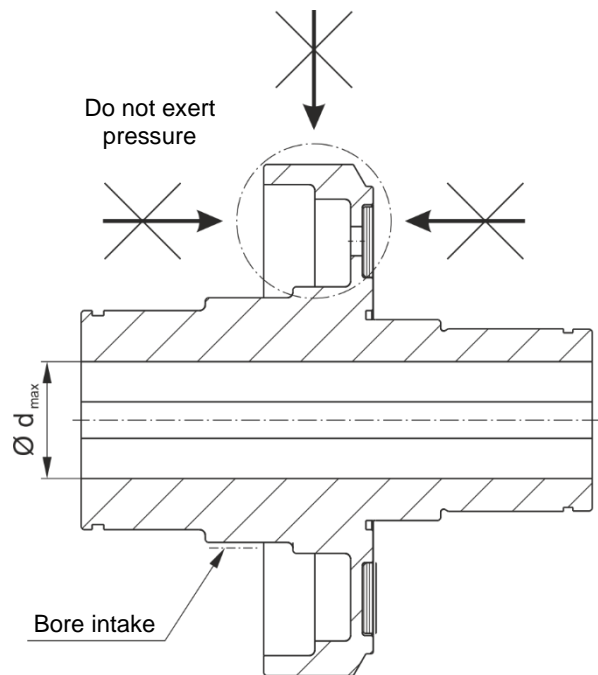

Fig. 3
## Boring the Rotor Hub (Fig. 3)
The rotor (1) must not be bent during boring. Do not place pressure on the outer, thin-walled rotor (1) area, see Fig. 3. To bore, clamp the rotor (1) onto the hub, Fig. 3. The max. permitted bore diameter  $d_{max}$ , according to Table 1, must not be exceeded. We recommend H7/k6 as a suitable hub-shaft tolerance.